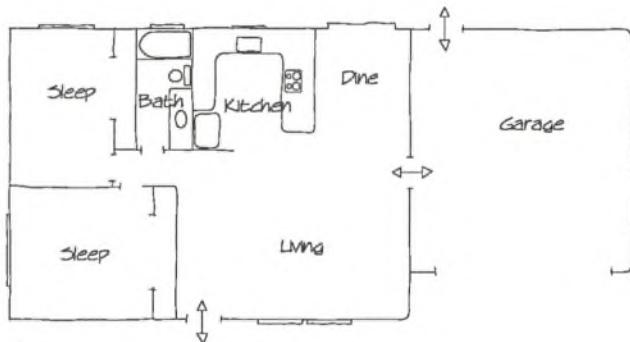

Fig. 7.3 A bubble diagram converted to a floor-plan sketch.
In Fig. 7.3, the bubble diagram was developed into a rough, single-line floor-plan sketch with appropriate room proportions in mind.
6. Choose your best diagram, and convert it to a single wall-line sketch of a floor plan. Keep in mind the relationship of the living space to the driveway and garage access to patio and garden, privacy, and orientation to the sun. Some other factors to consider are noise, view, and the exterior appearance of the house. (See Fig. 7.3.)